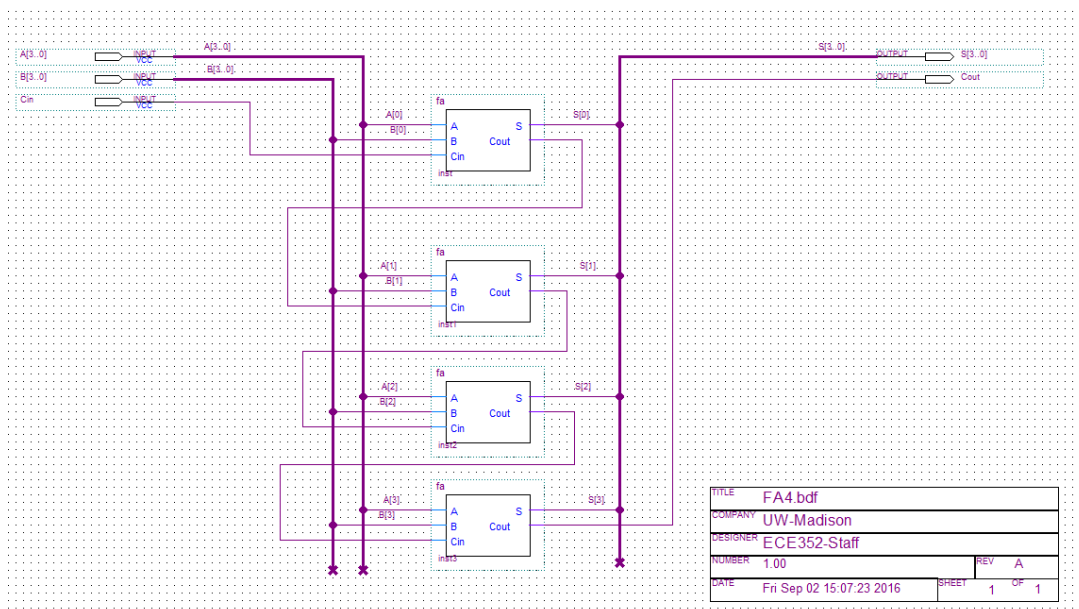

Figure 15
- 43) Add a title block to your schematic. Your schematic should look like Figure 15.